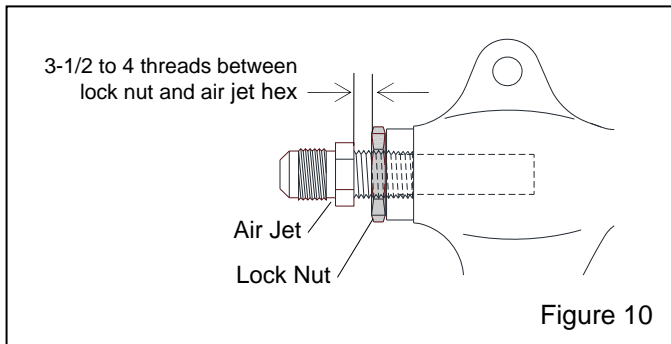

Figure 10
**5.2 Air Jet Adjustment, Figure 10**